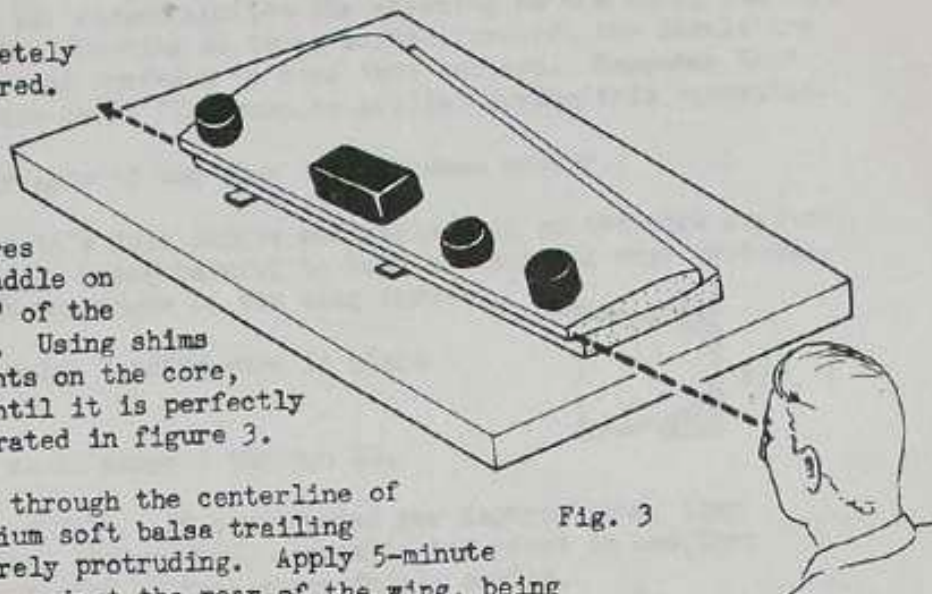

Fig. 3
3. To build the wing, a completely flat work surface is required. Remember that a warp of $1/64"$ built into the wing will cause undesirable flight characteristics. Select one of the wing cores and lay it in its foam saddle on the work surface with $1/2"$ of the trailing edge overhanging. Using shims under the saddle and weights on the core, align the trailing edge until it is perfectly straight. This is illustrated in figure 3.